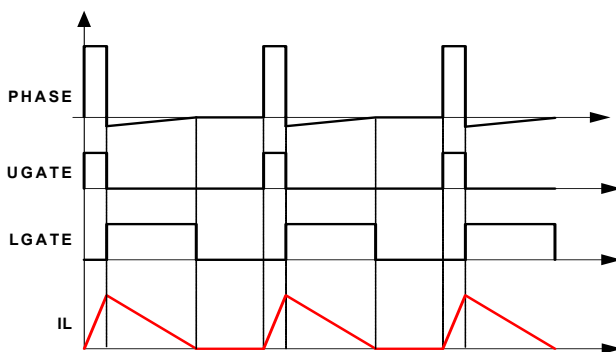

FIGURE 11. DIODE EMULATION
The ISL6377 can operate in Diode Emulation (DE) mode to improve light-load efficiency. In DE mode, the low-side MOSFET conducts when the current is flowing from source to drain and does not allow reverse current, thus emulating a diode. As Figure 11 shows, when LGATE is on, the low-side MOSFET carries current, creating negative voltage on the phase node due to the voltage drop across the On-resistance. The ISL6377 monitors the current by monitoring the phase node voltage. It turns off LGATE when the phase node voltage reaches zero to prevent the inductor current from reversing the direction and creating unnecessary power loss.
If the load current is light enough, as Figure 11 shows, the inductor current reaches and stays at zero before the next phase node pulse and the regulator is in Discontinuous Conduction Mode (DCM). If the load current is heavy enough, the inductor current will never reach 0A and the regulator is in CCM, although the controller is in DE mode.